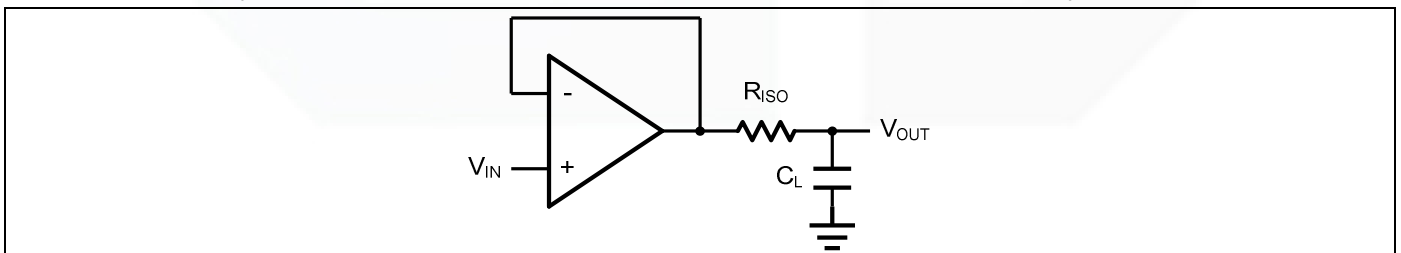
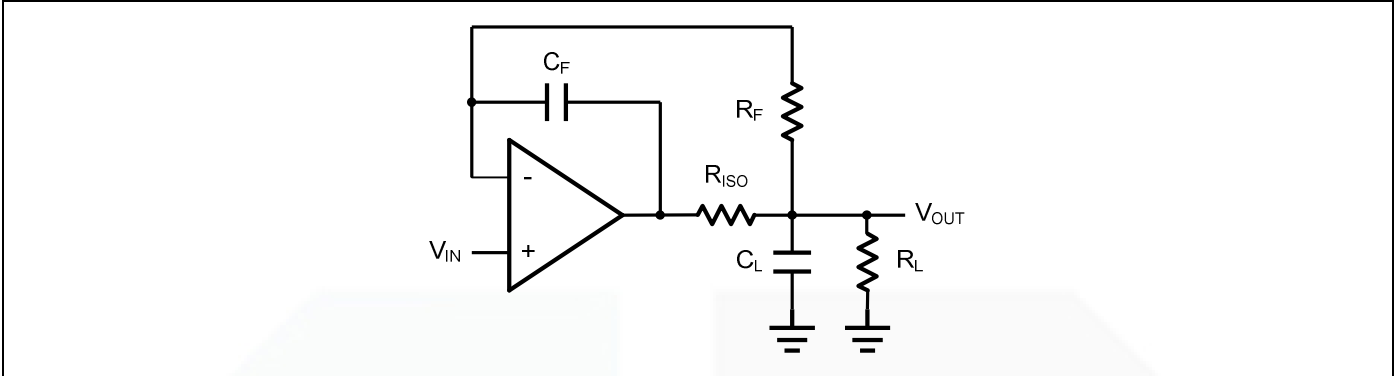

Figure 2. Indirectly Driving a Capacitive Load Using Isolation Resistor
Figure 3. Indirectly Driving a Capacitive Load with DC Accuracy
The GS809X family is optimized for bandwidth and speed, not for driving capacitive loads. Output capacitance will create a pole in the amplifier's feedback path, leading to excessive peaking and potential oscillation. If dealing with load capacitance is a requirement of the application, the two strategies to consider are (1) using a small resistor in series with the amplifier's output and the load capacitance and (2) reducing the bandwidth of the amplifier's feedback loop by increasing the overall noise gain. Figure 2. shows a unity gain follower using the series resistor strategy. The resistor isolates the output from the capacitance and, more importantly, creates a zero in the feedback path that compensates for the pole created by the output capacitance.
The circuit in Figure 3 is an improvement to the one in Figure 2.  $R_F$  provides the DC accuracy by feed-forward the  $V_{IN}$  to  $R_L$ .  $C_F$  and  $R_{ISO}$  serve to counteract the loss of phase margin by feeding the high frequency component of the output signal back to the amplifier's inverting input, thereby preserving the phase margin in the overall feedback loop. Capacitive drive can be increased by increasing the value of  $C_F$ . This in turn will slow down the pulse response.